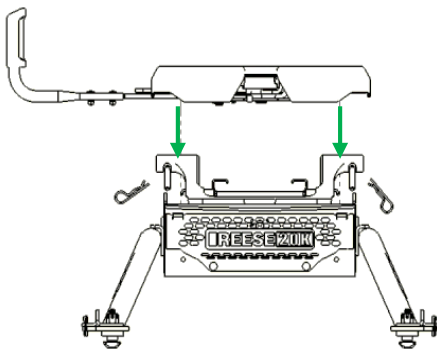
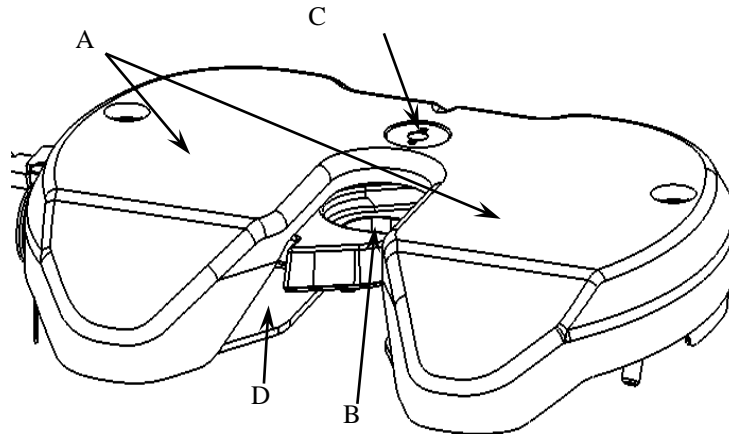

FIG. 4
FIG. 7
1. Apply grease per page 3, figures 7 & 8. Place head unit on top of center section as shown in figure 4, making sure to avoid putting any body parts in pinch points